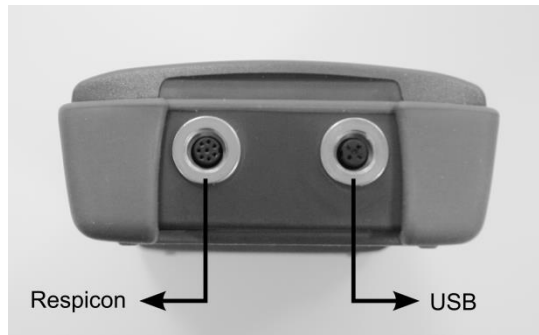

Fig. 1: DALO connectors. Left: connector for Respicon head, right: USB connector.
- Now, connect the four-pin connector of the DALO via the supplied USB cable with your PC (Fig. 1). Please make sure that the cable is firmly screwed into the connector.